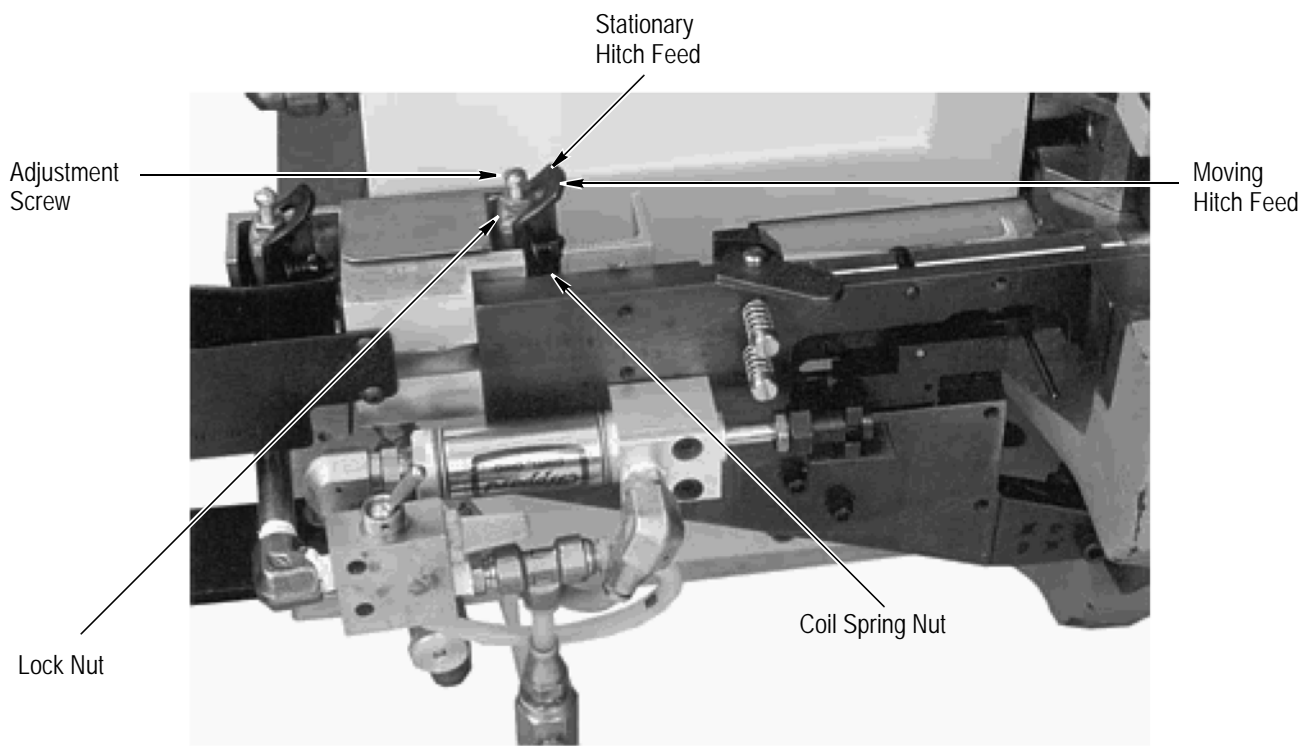

Figure 22
A. Hitch Feed Adjustment (Figure 22)